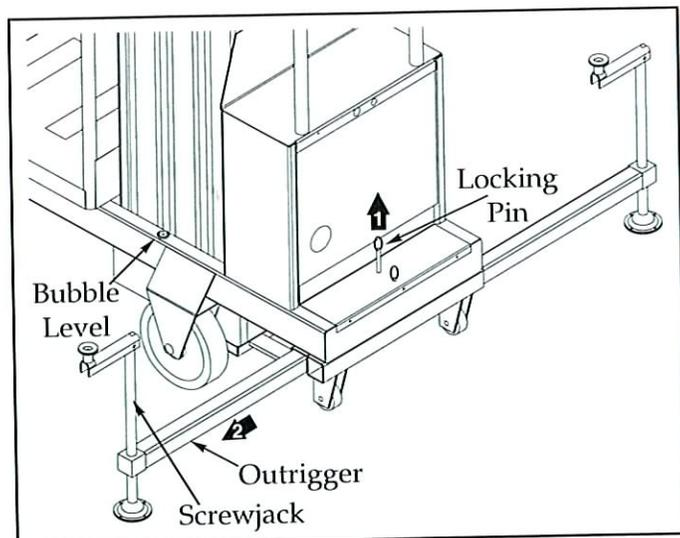

Figure 1: Preparing machine for elevation.
1. Lift locking pin and extend outrigger until locking pin reengages outrigger (Figure 1).
2. Repeat step one for all four (4) outriggers. Make sure all four (4) locking pins are engaged.
3. Lower each screwjack pad by turning screwjack clockwise (Figure 1). Repeat this process for all four (4) outriggers to center bubbles in bubble levels located on each side of chassis. DO NOT release the tension on an outrigger, by turning counter-clockwise, to level base.
3. Level the base, centering the bubbles in the bubble levels on either side of the chassis by adjusting screwjacks at the end of each outrigger (Figure 1).
4. All four (4) screwjack pads must be in solid contact with a firm level surface and the machine leveled before the platform is elevated.